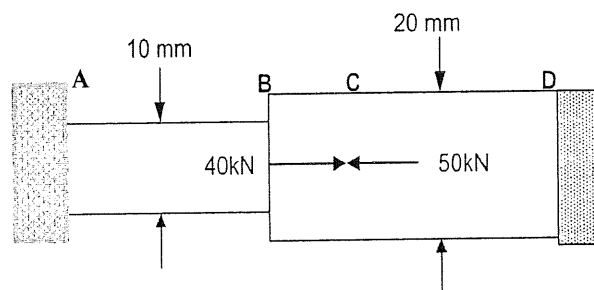

Figure 1
- b) Figure 1 shows two (2) solid cylindrical rods made of steel are fixed at support A & D. Given $L_{AB} = 30\text{ cm}$, $L_{BC} = 20\text{ cm}$, $L_{CD} = 50\text{ cm}$.